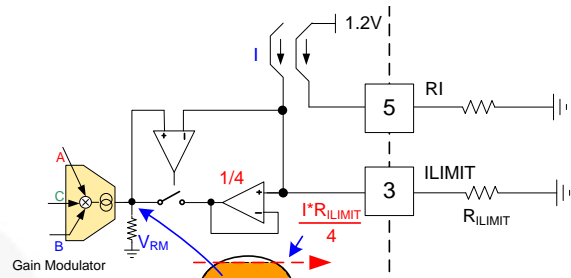
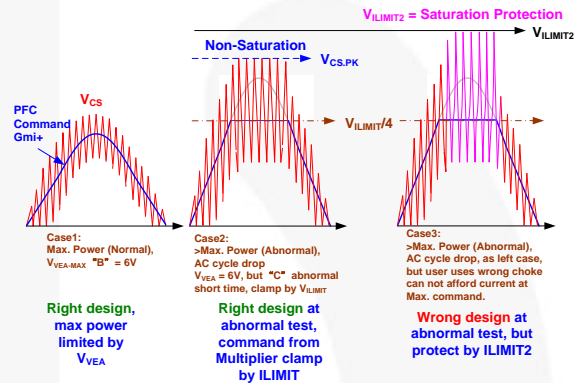

Figure 22. Current Command Limit by ILIMIT
Figure 23. ILIMIT and ILIMIT2 Setting
**Case 2, current limit 1 (abnormal state):** The current command from the gain modulator is  $k \cdot I_{AC} \cdot V_{VEA} / V_{LPK}^2$ . When in abnormal state (e.g. AC cycle miss and return in a short period), the  $V_{LPK}$  has a delay before returning to the original level. This delay significantly increases the current command. If the command is greater than the clamp limit level,  $V_{LIMIT1}$ , it limits as shown in Figure 22 and Figure 23. The peak current of this state can be used as the maximum current designed for each channel such that inductor current is not saturated.